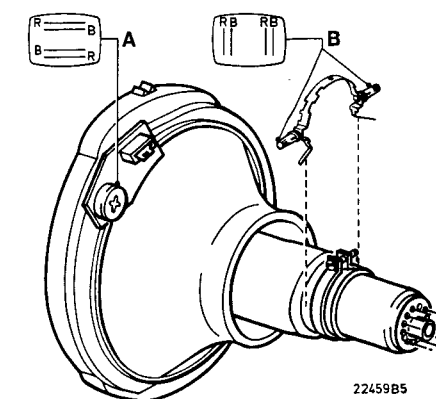

Fig. 6
- a. The horizontal red and blue lines in the upper and lower part of the picture can be made to coincide with potentiometer "A" (see Fig. 6).